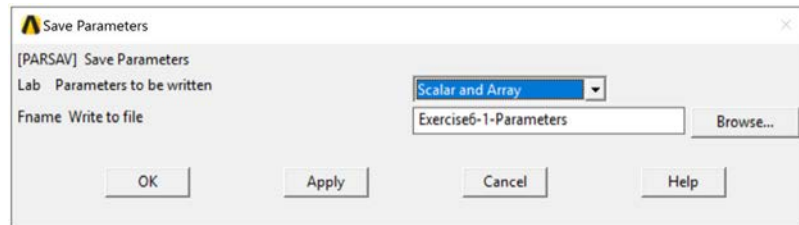

Figure 6-1-14 Save Parameters Dialog Box.
- In the Lab Parameters to be written drop down box, choose “Scalar and Array” (Figure 6-1-14)